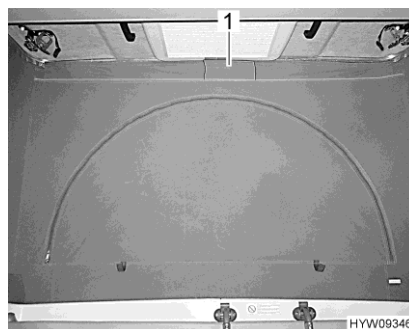

Fig. 60 Ventilation (closed)
- Release the Velcro of the fabric flap (Fig. 60,1) underneath the elevating roof. A mesh is installed behind the fabric flap as protection from insects.